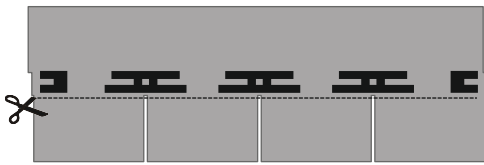
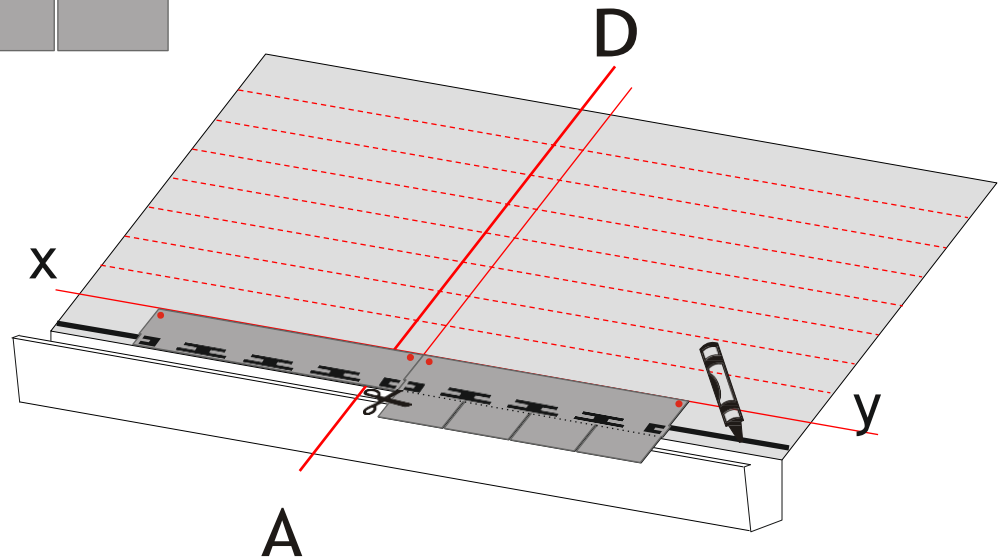

Fig. 2 Trimming the tabs
Fig. 3 - Installation of the starter course
- Apply a line of bituminous mastic “ondumastic” along the eaves (Fig. 3); trim the tabs from the bituminous shingle to form the starter course (Fig. 2) and align it to the line z (see Fig. 3).